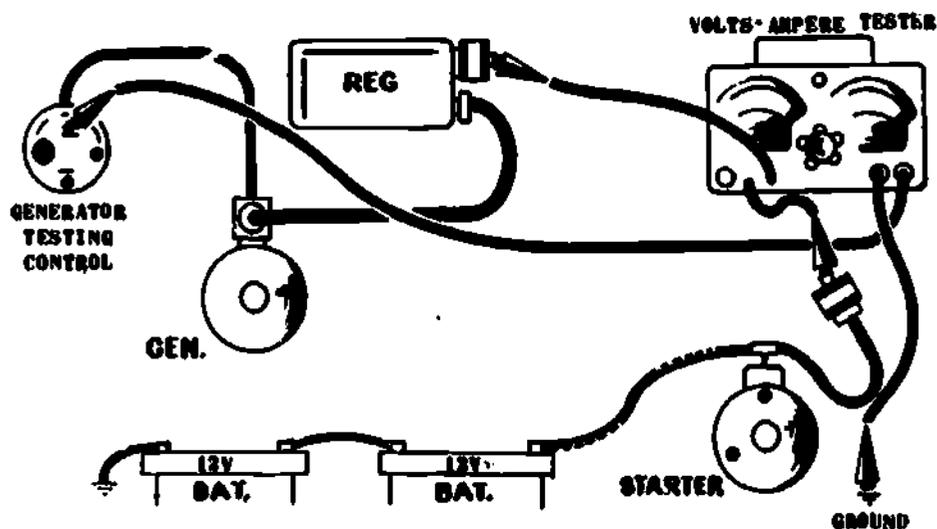

Fig 1-20. Cutout relay test.
6. **Cutout relay test** (fig 1-20). The cutout relay is a part of the regulator assembly which opens and closes the circuit between the generator and the battery. When the generator is producing enough current to overcome the battery voltage, the cutout relay closes and allows the current to flow to the battery. This relay will open the circuit when the generator is not producing enough current and prevent the flow of electricity from the battery to the generator. The component parts of the regulator are tested after the generator and charging circuits have been tested and are operating satisfactorily.